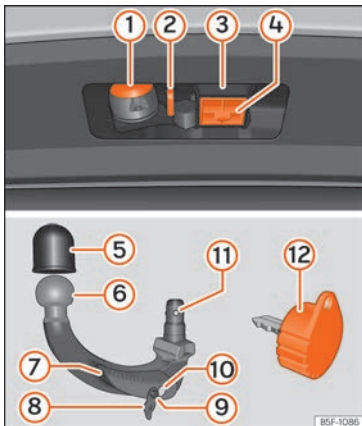

Fig. 298 The towing device supports trailers / tow hook / key
- The top part of the hook housing is greased »» Fig. 298 (3). When using the device, make sure that it has not been removed.
- Remove the hook housing cap >>> Fig. 298 (4) downwards.
- Fit cover (4) » Fig. 298 onto its housing.